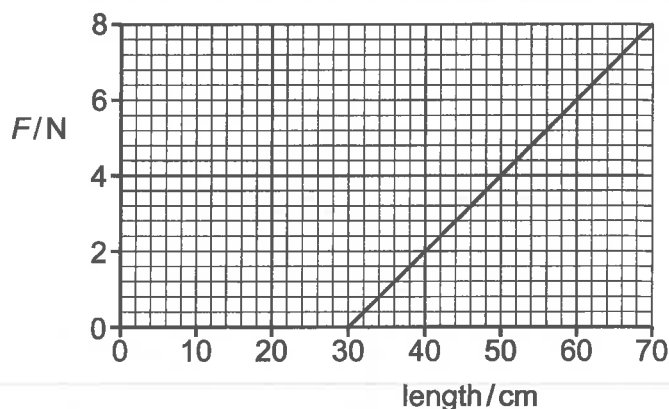

Fig. 1.3
- (c) Fig. 1.3 shows the variation of the tension F with the length of the spring in (b).